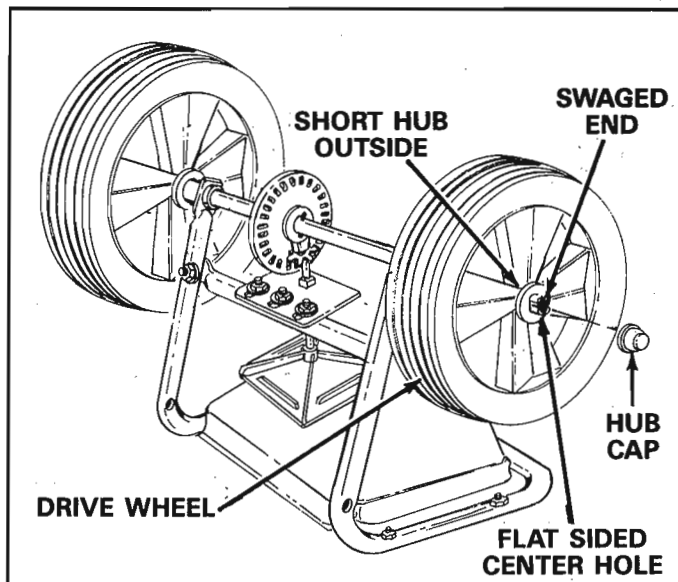

FIGURE 6
- Place wheel with flat sided center hole onto swaged end of axle. The side of the wheel with the shortest hub must be toward outside of axle. See figure 6.
- Place hub cap onto axle outside of wheel. Using a small hammer lightly tap hub cap until snug against wheel. See figure 6.